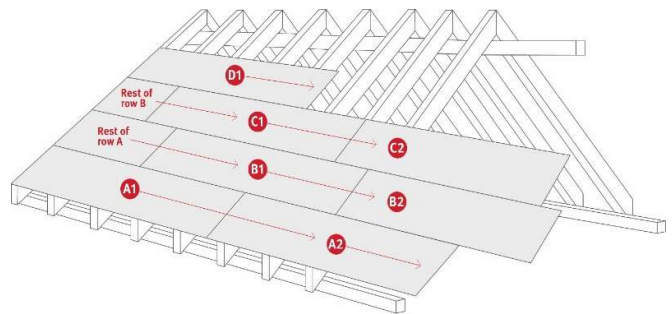

Figure 10
6. Start the next row (B) with the cut-off rest piece of row A, with the straight cut side flush with the first rafter and the opposite groove facing in the direction of installation. Fasten the OSB to the rafters (figure 10)